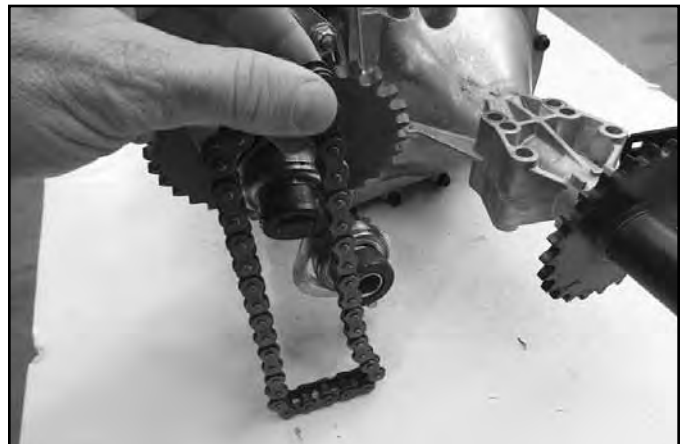

Fig. 110
3. The jack shaft will be loose, allowing the removal of the chain (Fig. 110).